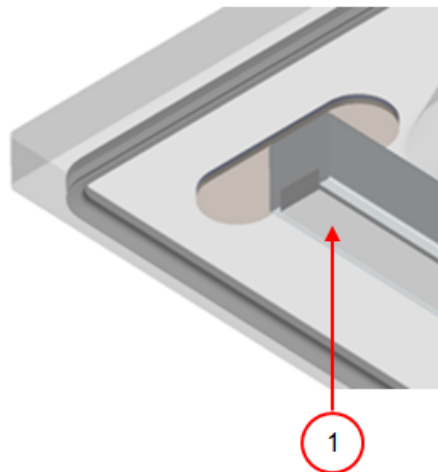

Figure 6: Replacing the Silicone Rubber of the Silicone Holders
1. Pull the old silicone rubber from the holder, see *Figure 6: Replacing the Silicone Rubber of the Silicone Holders* on page 28.